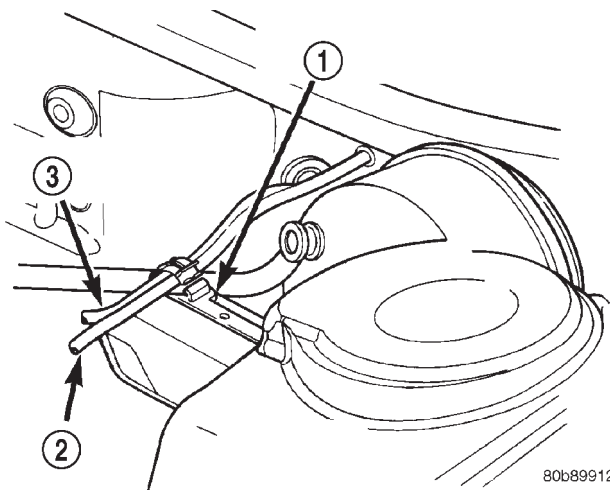
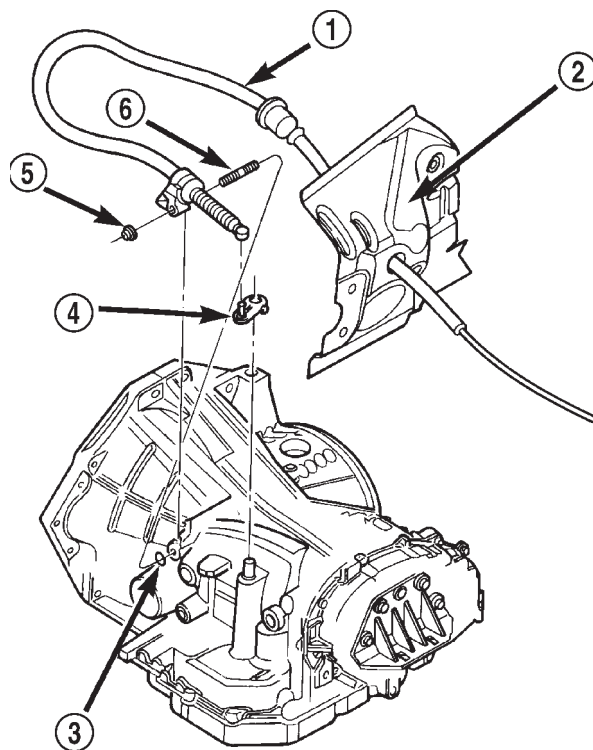
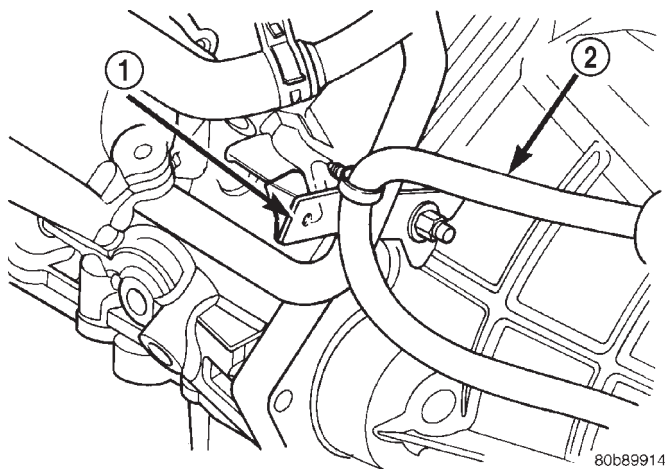
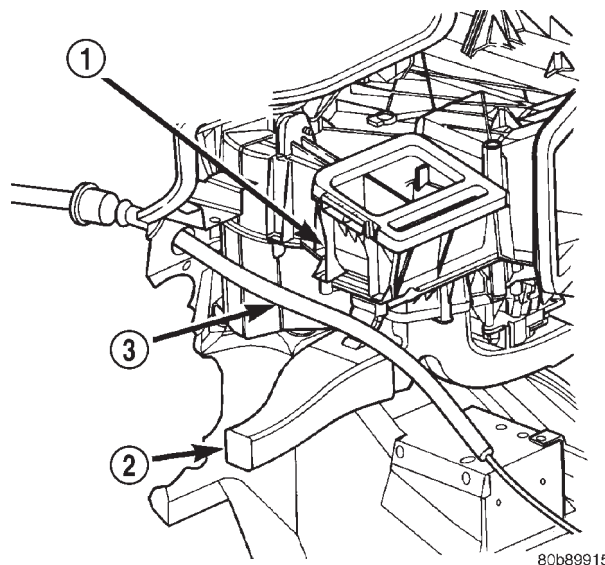

Fig. 55 Throttle/Gearshift Cable Bracket
Fig. 56 Gearshift Cable Removal/Installation
Fig. 57 Gearshift Cable Routing Bracket
Fig. 58 Gearshift Cable Routing
(8) Raise hood. Remove gearshift cable from throttle/gearshift cable bracket (Fig. 55)
(9) Unseat cable grommet at firewall and remove cable from interior of vehicle (Fig. 56).
(10) Raise vehicle on hoist and disconnect fill tube bracket from transaxle. Rotate fill tube to gain access to shift cable clamp.
(11) Remove cable from routing bracket (Fig. 57).
(12) Remove cable-to-transaxle nut and slide cable off of stud (Fig. 56).
(13) Disconnect shifter cable from shift lever assembly at transaxle (Fig. 56).
(14) Remove cable from underneath vehicle.
(1) Make sure transaxle shift lever is in "Park." This is the most rearward position. Verify park sprag is fully engaged by rotating either a tire or an axle shaft.
(2) Position cable in vehicle and connect cable end to the transaxle shift lever (Fig. 56).
(3) Verify that the washer (Fig. 56) is still in place on the cable mounting stud. Install cable to transaxle and tighten nut to 28 N·m (250 in. lbs.).
(4) Rotate fill tube to original location. Install and tighten fill tube bracket bolt.
(5) Install cable "push pin" into bracket as shown in (Fig. 55).
(6) Route transaxle shift cable through hole in dash panel (Fig. 56) (Fig. 58).
(7) Lubricate cable grommet with a synthetic lubricant (or equivalent) and secure to hole. Verify that it is seated by gently pulling outward on cable.
(8) Install cable into throttle/gearshift cable bracket (Fig. 55).
(9) Inside the vehicle, route the gearshift cable between the left a/c duct and the left lower heat duct (Fig. 58) and towards the gearshift mechanism.